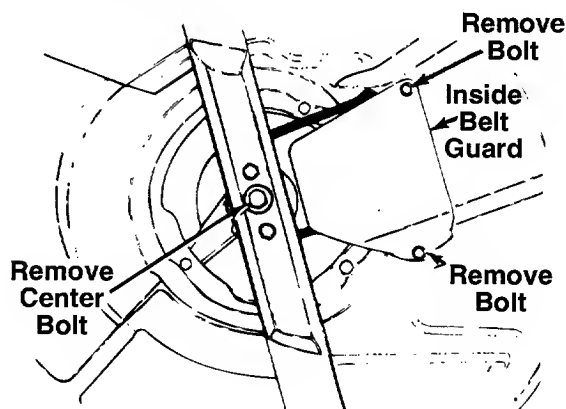

FIGURE 13.
5. Remove the center bolt which secures the blade to the crankshaft. See figure 13. Remove the blade, blade adapter and pulley half. Remove the belt.
6. Remove the inside belt guard by removing two self-tapping screws. A 3/8" wrench is required. See figure 13.